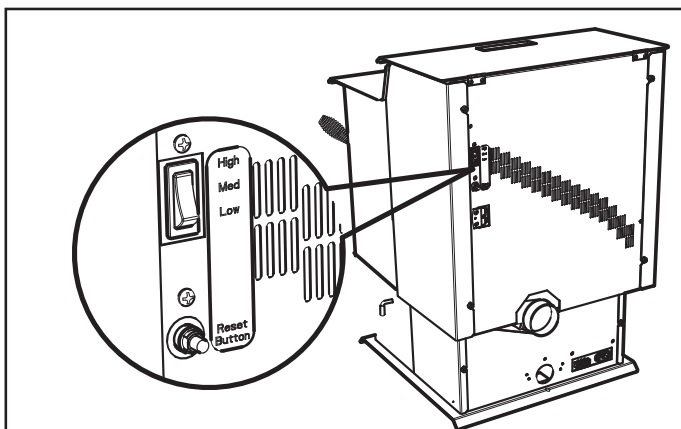

Figure 9.1
This appliance is equipped with a heat output control switch that has three settings or burn rates; low, medium and high. **Figure 9.1.**
3. Locate the heat output control switch mounted on the back of the appliance in the upper left corner. **Figure 9.1 on page 9.**